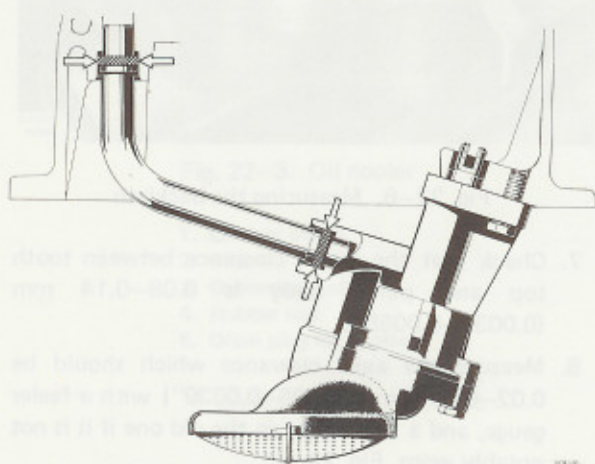

Fig. 22-8. Sealing rings on discharge pipe
2. Install the oil pump and discharge pipe in the cylinder block, Fig. 22-8. The pump connection flange should be flush with the block before being tightened up.